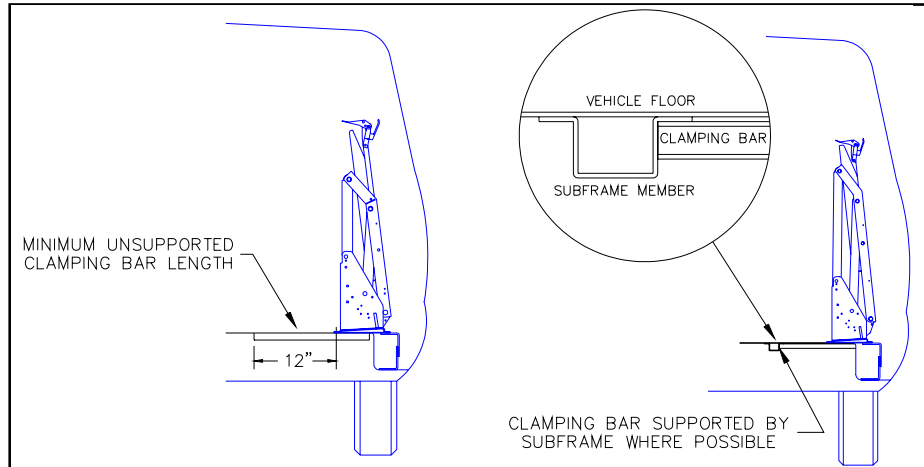

FIGURE 2-2: FORD VAN CLAMPING BAR ARRANGEMENT
- ◆ Refer to **Figure 2-2**. On Ford van installations, clamping bars must be used to help evenly distribute floor loading and should only be cut if needed to clear a subframe member. A subframe member should be used to support clamping bar.